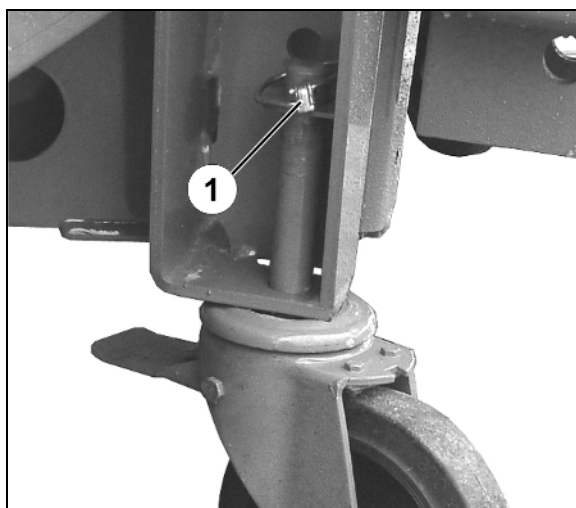

Fig. 28
6. Rigid rollers at rear (Fig. 28)
- o Install and secure with clip pin (Fig. 28/1),
When installing the rigid rollers ensure that the pin (Fig. 28/2) goes through the bore of the frame, thus holding the rollers in longitudinal direction.